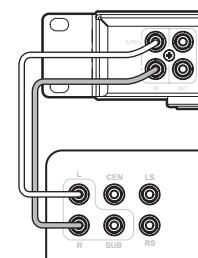

Fig. 4
**a. Use a line-level RCA cable connection (applicable to all models) See Fig. 4**